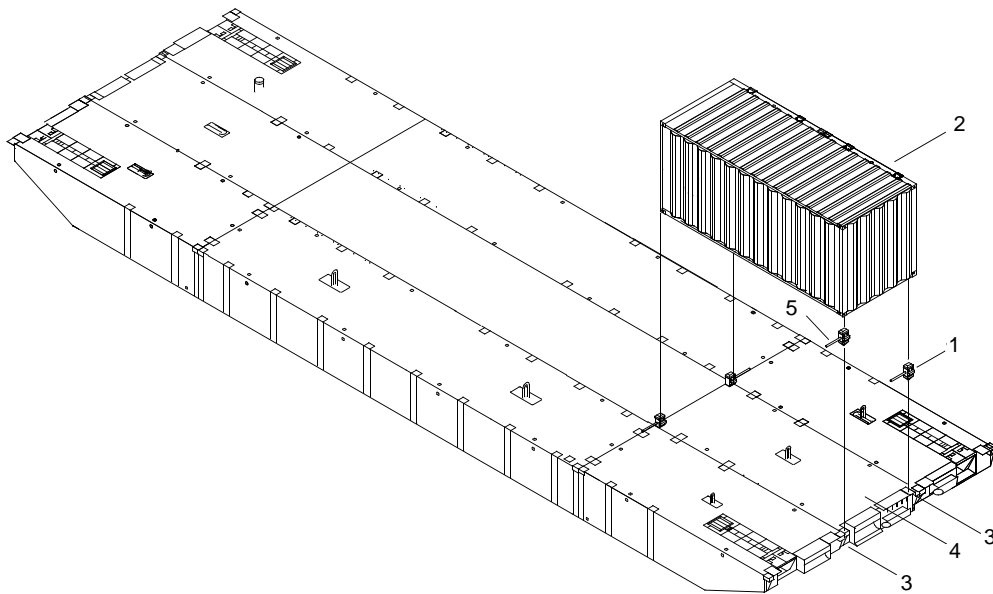

Figure 1. Installing BII Container on FC Platform
3. Remove four vertical twistlocks (figure 1, item 1) from BII container (figure 1, item 2).
6. Position four vertical twistlocks (figure 1, item 1) in ISO corner fittings (figure 1, item 3) on center end rake (figure 1, item 4).
7. Using crane, position BII container (figure 1, item 2) on four vertical twistlocks (figure 1, item 1).
8. Lock four vertical twistlocks (figure 1, item 1) by rotating levers (figure 1, item 5) to secure BII container (figure 1, item 2) to center end rake (figure 1, item 4).